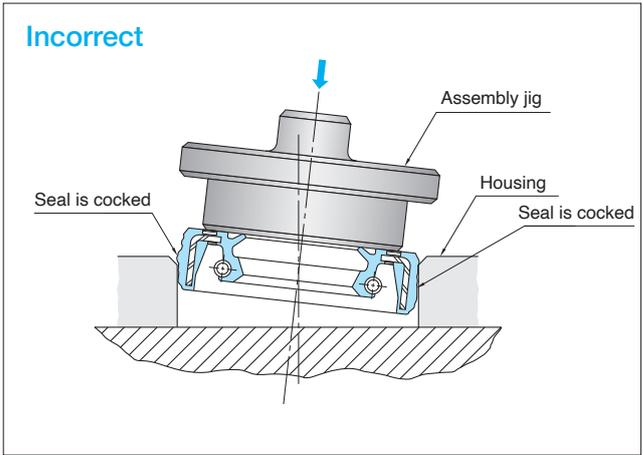
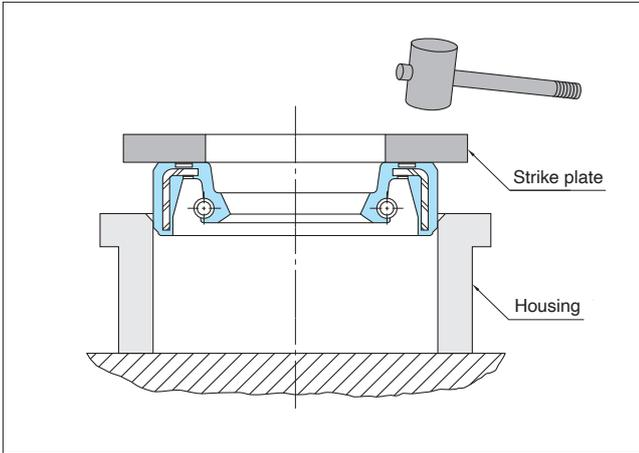
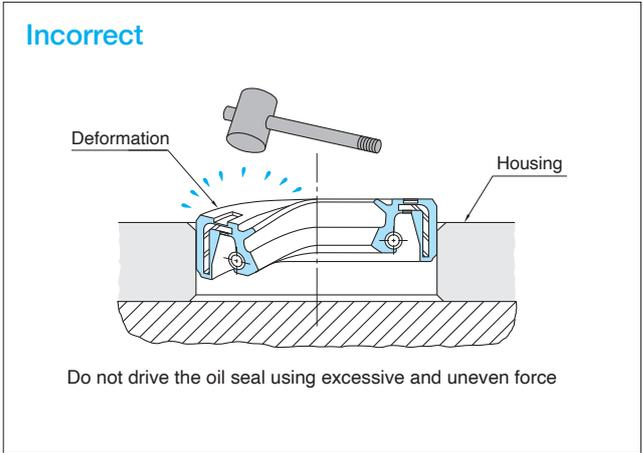

Fig. 7-7 A Cocked Seal Installation Example
Fig. 7-8 Installing a Seal Without a Press
Fig. 7-9 Damage Caused by Direct Hammer Strikes
- ③ Place the oil seal in the housing bore in a horizontal position, and then press the oil seal in uniformly. Pressing a cocked seal in with excessive force (see Fig. 7-7) deforms the oil seal, which in turn causes leakage.
- ④ For oil seals with a rubber OD, press the assembly jig twice in succession to let the oil seal settle firmly at the desired depth of installation in the bore.
- ⑤ If a press is not available, use a full-sized strike plate as shown in Fig. 7-8, and drive the entire circumference evenly with a hammer to install the oil seal squarely into the bore. Do not strike the oil seal directly with a hammer, as shown in Fig. 7-9.